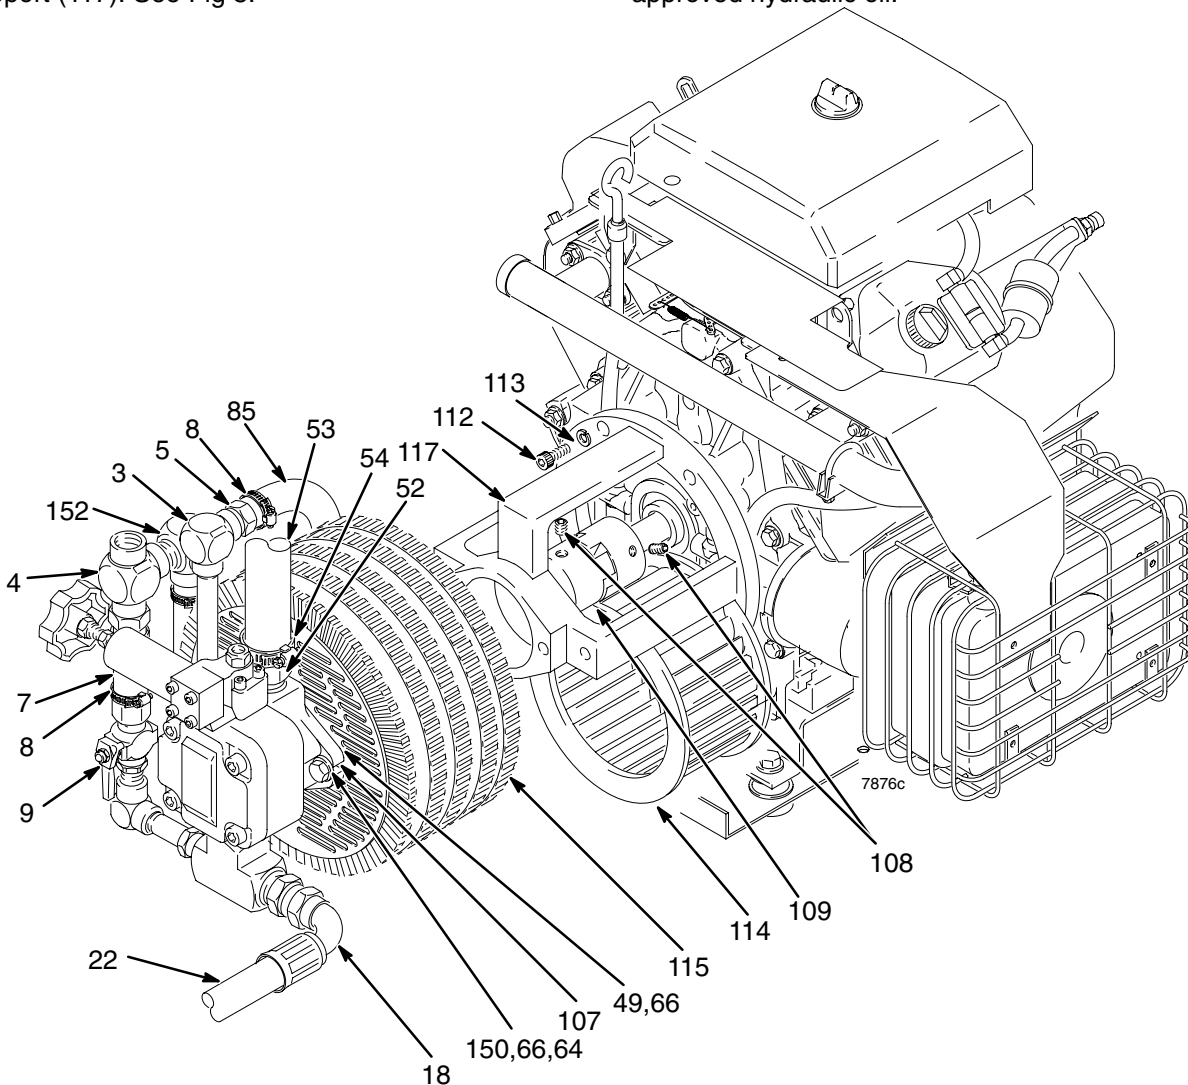
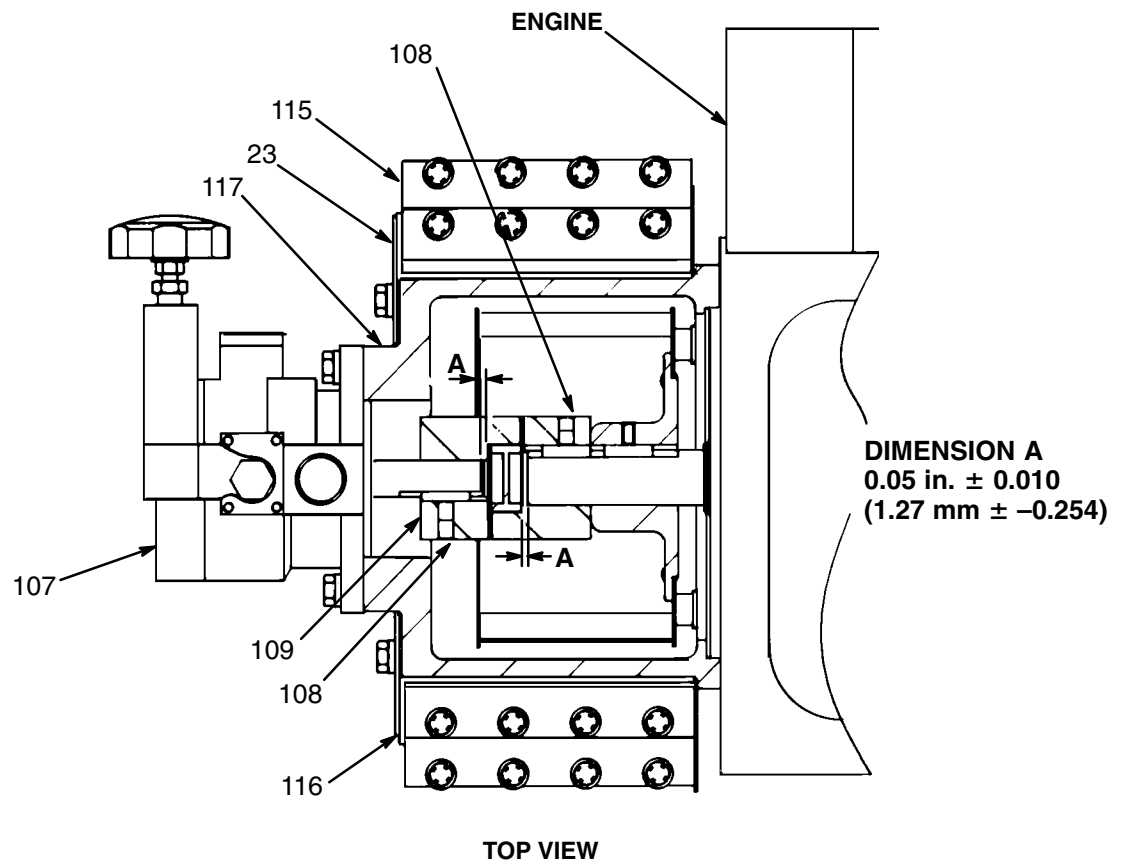

Fig 8
Fig 9
2. Unscrew the reservoir drain plug (51), having a container ready to catch the draining fluid.
3. Disconnect the hose (7) from the bypass valve (9) by loosening the hose clamp (8). See Fig 8.
4. Loosen the hose clamp (8) and pull the hose (85) off the hose insert (5) near the elbow (3). See Fig 8.
5. Loosen the hose clamp (54) on the hose (53) just above the hydraulic pump (107). See Fig 8.
6. Loosen the tube fitting nut (18) of hose (22). See Fig 8.
7. Remove the two capscrews (150), lockwashers (66) and washers (64) holding the pump (107) to the support (117). See Fig 8.
9. Loosen the setscrews (108) on the pump half of the coupler (109). See Fig 9.
11. Check Dimension A as shown in Fig 9. When the dimension is correct, tighten the setscrews (108), slide the new pump assembly onto the pump support (117) and recheck the dimension.
12. Reconnect the hoses. Reinstall the reservoir plug (51), and refill the reservoir with clean, Graco approved hydraulic oil.
3. Disconnect the cooler to reservoir return hose (7.) by loosening the hose clamp (8). See Fig 8.
4. Remove the cooler capscrews (49) and lockwashers (66). See Fig 8.
5. Remove the fan guard (23). See Fig 8.
6. Pull the cooler (115) straight out.
7. Inspect the rubber pad (116) for wear and replace if necessary. See Fig 9.
8. Inspect the blower wheel (114) for wear. See Fig 8. If it needs to be replaced, follow Steps 8a–8e.
- a. Unscrew the setscrews (108) from the engine half of the coupler (109). Unscrew the blower setscrews (B). See Fig 9.
- b. Remove the capscrews (112) and lockwashers (113) holding the pump support (117) to the engine and pull the support off. See Fig 8.
- d. Install a new blower. Secure the pump support (117) to the engine. See Fig 8.
- e. Check Dimension A as shown in Fig 9 and tighten the coupler setscrews (108). Butt the blower hub up to the coupler half, keeping the blower in full contact with the coupler, and tighten the blower setscrews (B).
10. Fold the flaps of the pad (116) toward the cooler fins and install the fan guard (23), capscrews (49) and lockwashers (66). See Fig 8.